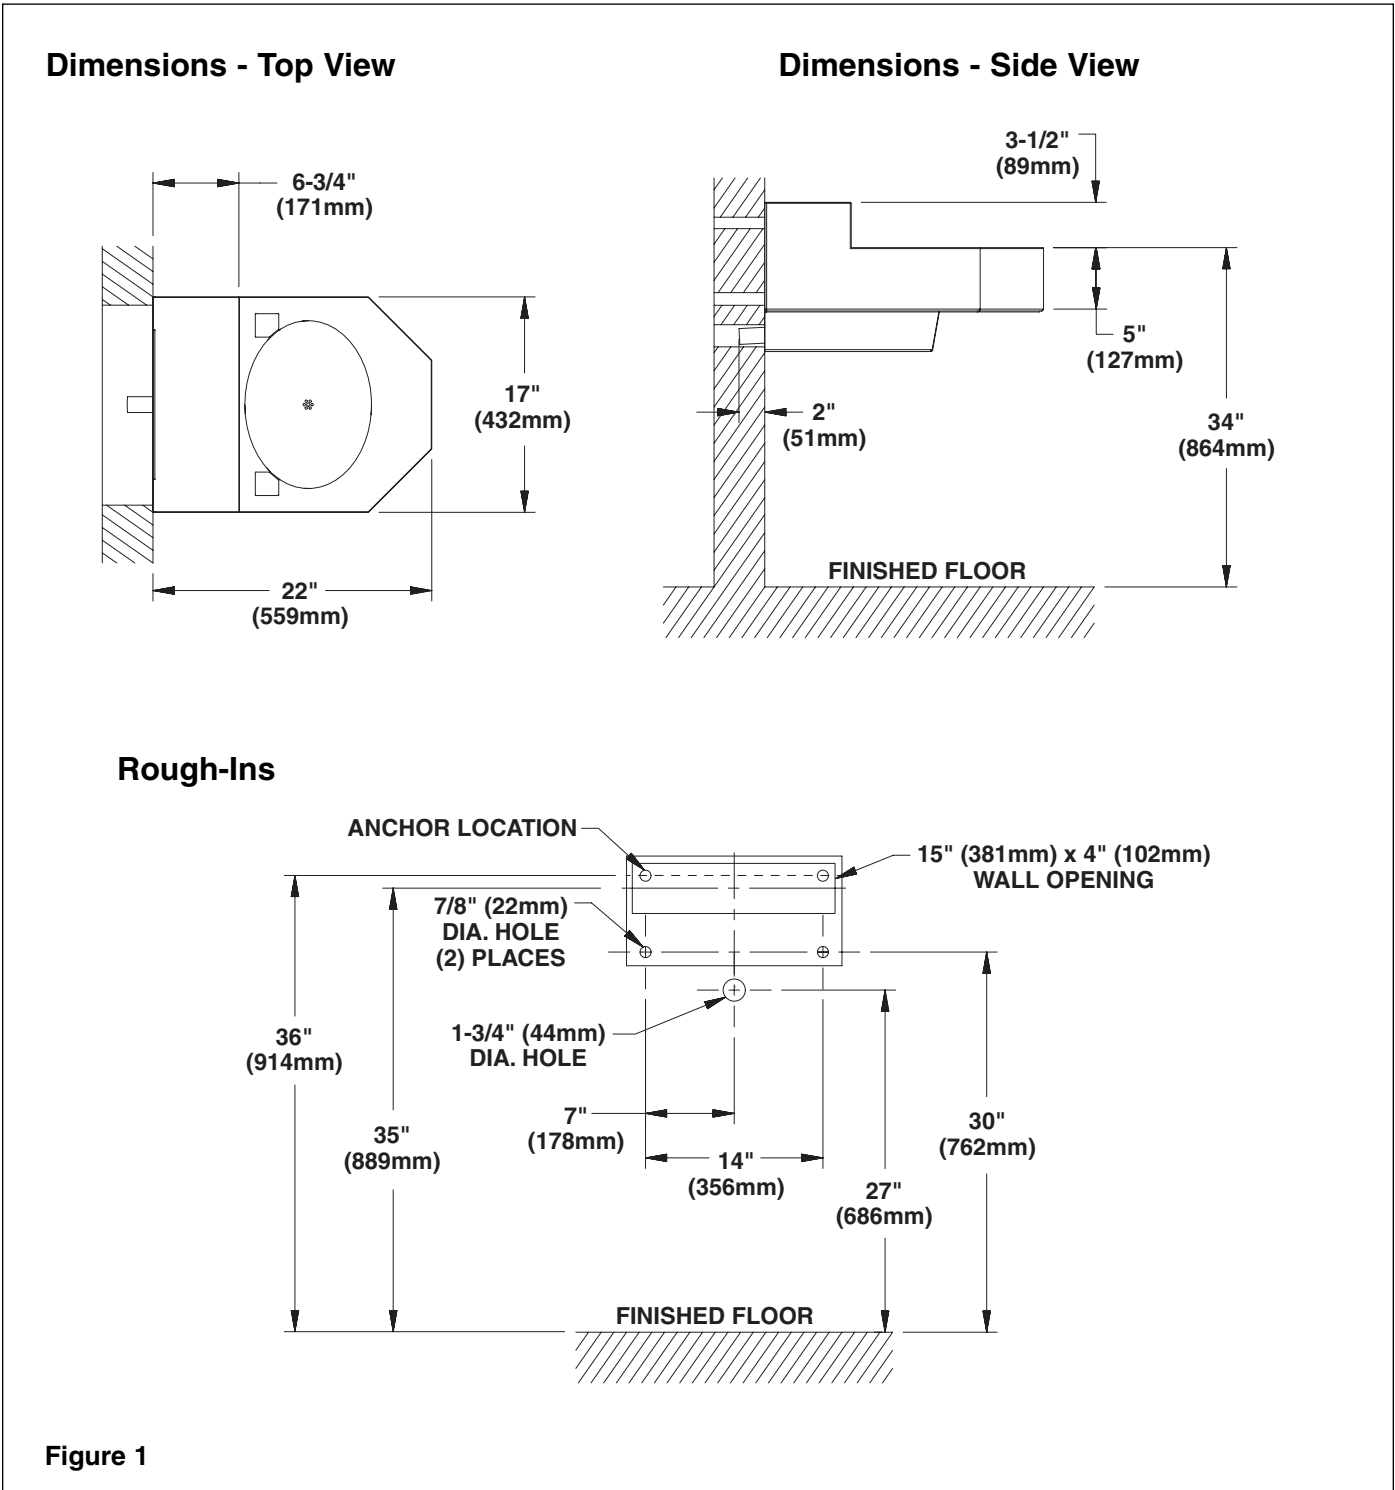

Figure 1
1. Rough in the wall openings as shown in Figure 1.